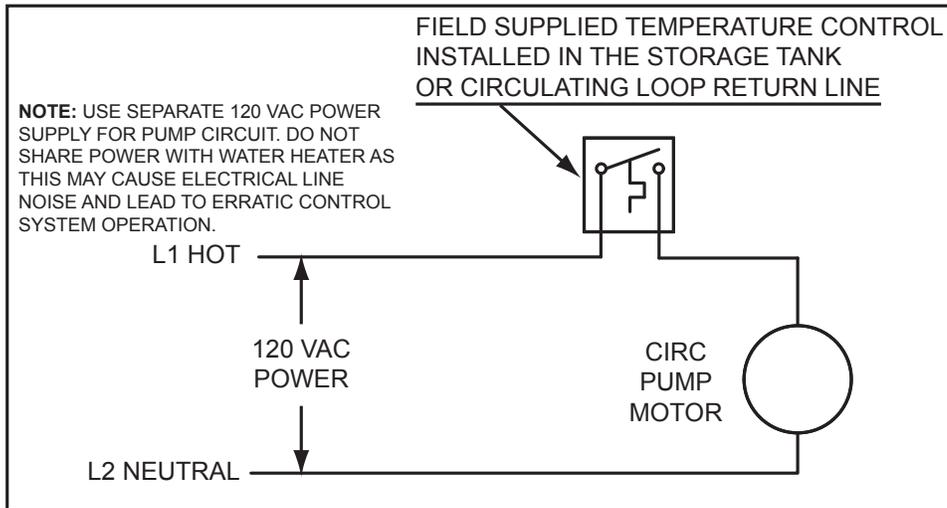
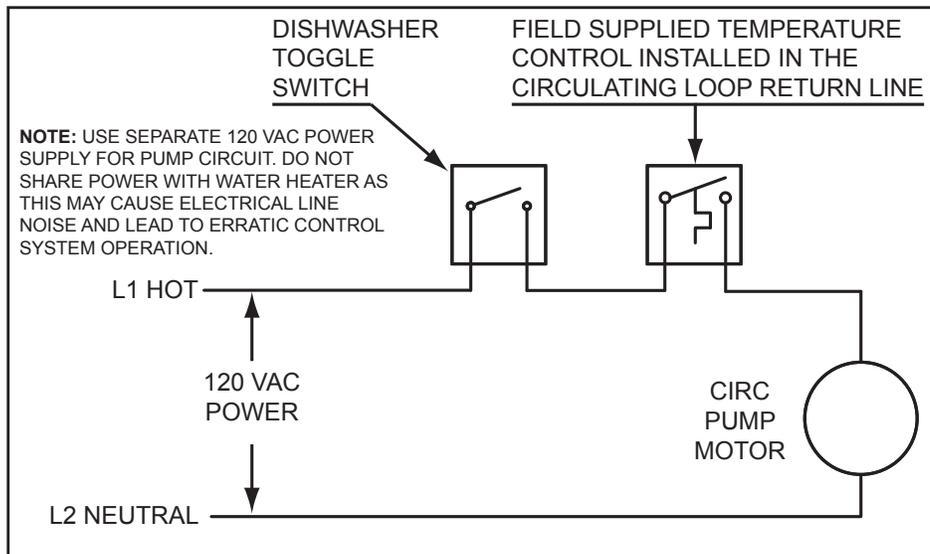

Figure 68. Circulating Pump Wiring Diagram - Storage Tank or Building Recirculation
Figure 69. Circulating Pump Wiring Diagram - Dishwasher Loop Toggle Switch
6. If a pump is being installed between a water heater and storage tank or on a building recirculation loop wire according to *Figure 68* (page 68).
7. If a pump is being installed in a recirculation loop between the water heater and a commercial dishwasher wire according to *Figure 68* or *Figure 69* (page 68).
5. If a pump is being installed between a water heater and storage tank or on a building recirculation loop wire according to **Figure 68** (page 68).
6. If a pump is being installed in a recirculation loop between the water heater and a commercial dishwasher wire according to **Figure 68** or **Figure 69** (page 68).
5. If a pump is being installed between a water heater and storage tank or on a building recirculation loop wire according to *Figure 68* (page 68).
6. If a pump is being installed in a recirculation loop between the water heater and a commercial dishwasher wire according to *Figure 68* or *Figure 69* (page 68).